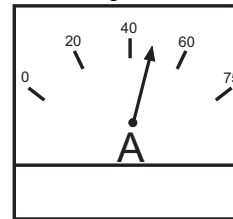

Figure 49. Ammeter (Load)
17. Observe the generator's ammeter (Figure 49) and verify that it reads the anticipated amount of current with respect to the load. Remember the ammeter will only display a current reading if the load is in use.